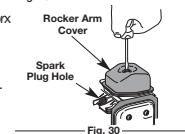

Fig. 30
5. Clean dirt from around the rocker arm cover. Remove the screw holding the rocker arm cover with a large flat blade screwdriver or Torx T-25 bit (Fig. 30). Remove the rocker arm cover and gasket.
- The piston is at the top of its travel while looking in the spark plug hole (Fig. 30).